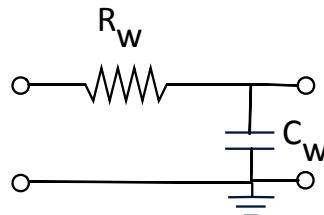

Figure 1: A suggested wire model.
- c) Why is the suggested model shown in Figure 1 for an on-chip wire segment with total resistance R_w and total capacitance C_w not useful for delay calculations? (1 p)